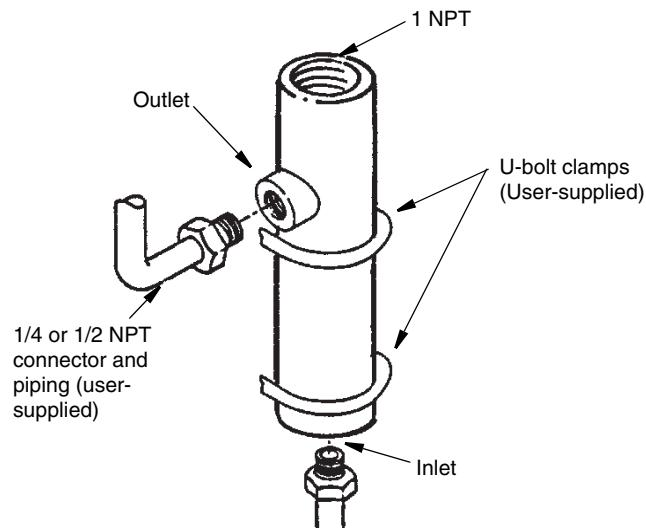

Figure 5. Flow Chamber Installation
2. Mount the flow chamber and connect the two $\frac{1}{4}$ NPT or $\frac{1}{2}$ NPT user-supplied connections (see Figure 5).